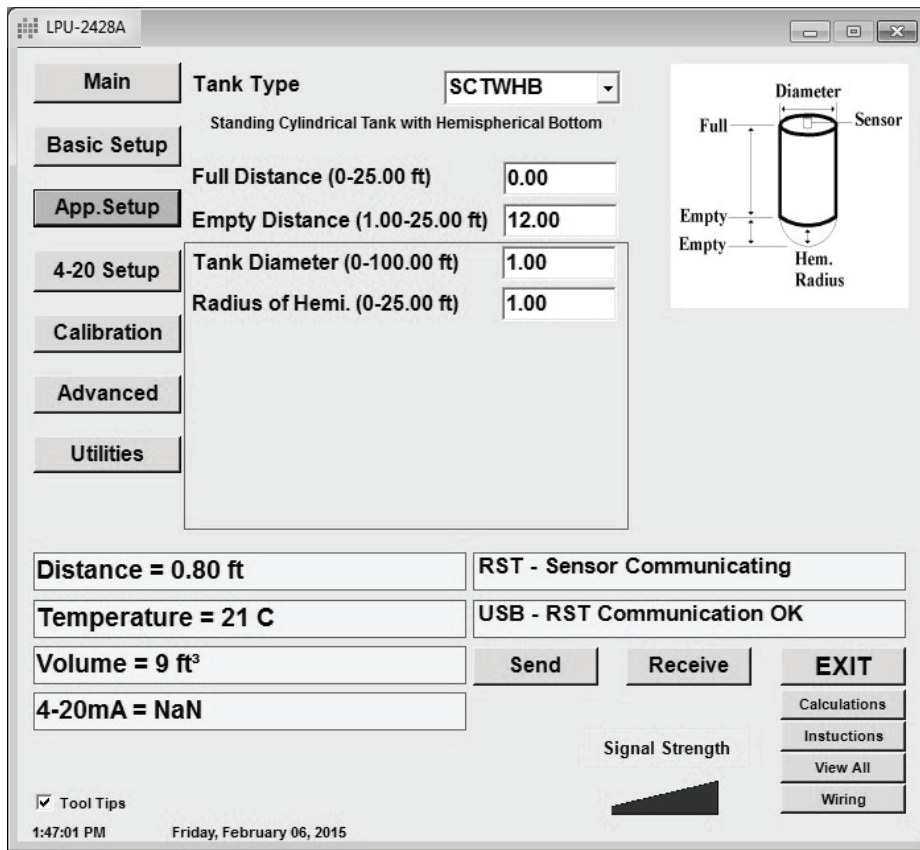

Figure 4.7
Tank Diameter sets the diameter of cylindrical (SCTWHB, SCTWCB, HCT) or spherical (ST) tank. (See Figures 4.7, 4.8, 4.10, and 4.11)
Radius of Hemi sets the radius of the hemisphere on the bottom (SCTWHB) or end (HCT) of a standing or horizontal cylindrical tank. (See Figures 4.7 and 4.10)